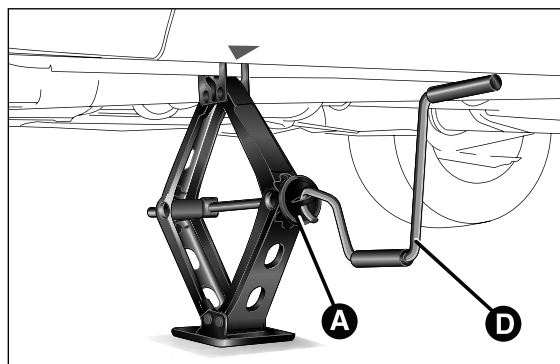
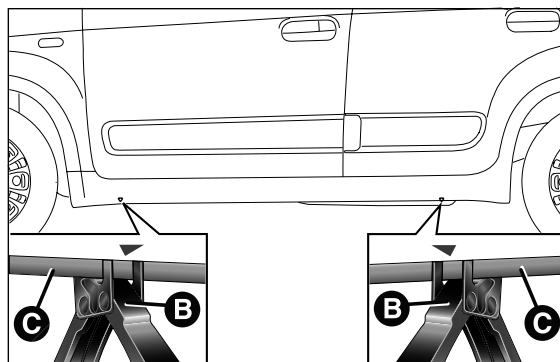

fig. 111
fig. 112
- ☐ operate the device A fig. 111 to extend the jack until the top of the jack B fig. 112 fits correctly into the side member C (next to the mark ▽ on the side member);
- ☐ fit handle D fig. 111 into the housing in device A, operate the jack and raise the car until the wheel is a few centimetres from the ground;